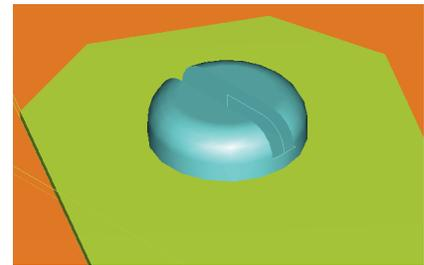

Fig. 62
Step 11. Turn on the shading, use **ALT-S**, **Fig. 62**.